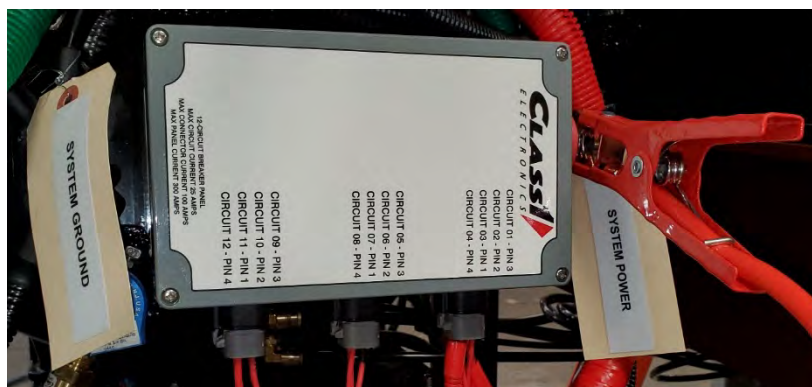
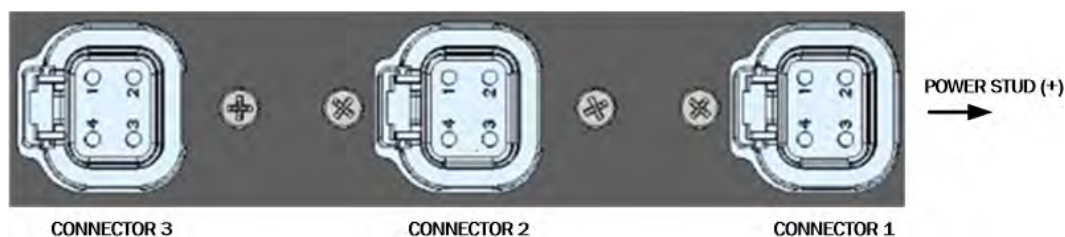

Figure 84. Circuit Breaker Box
Figure 85. Circuit Breaker Box Connector/Pin Layout
The SAM power system consists a ground stud, a power stud, and the circuit breaker box (see Figure 84).
Multiple Hale harness connect to the ground stud and the three circuit breaker box connectors which supply all of the power required by the SAM system. Additionally, the OEM/apparatus builder connects apparatus power (12 VDC, negative and positive) to the SYSTEM GROUND stud (located on the pump body, see Figure 84) and the SYSTEM POWER stud (located on the circuit breaker box, see Figure 85) respectively.
- D. Using #2 Phillips screwdriver, remove four [4] cover screws. See Figure 85.
- A. Using #2 Phillips screwdriver, remove four [4] cover screws. See Figure 85.
- b) Use cover label (see Figure 84, page 115), Figure 85 (page 115), and Table 66 to determine associated connector pins.